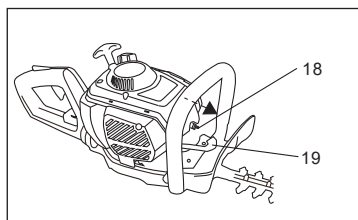

Fig. 27
1. Inspect the spark plug (18) at least every 25 hours or prior to long-term storage over 30 days if the use has not been this high. Clean or replace with a new spark plug if necessary, refer to section "TECHNICAL SPECIFICATIONS".
2. Unplug the spark plug connector (19) (Fig. 27).